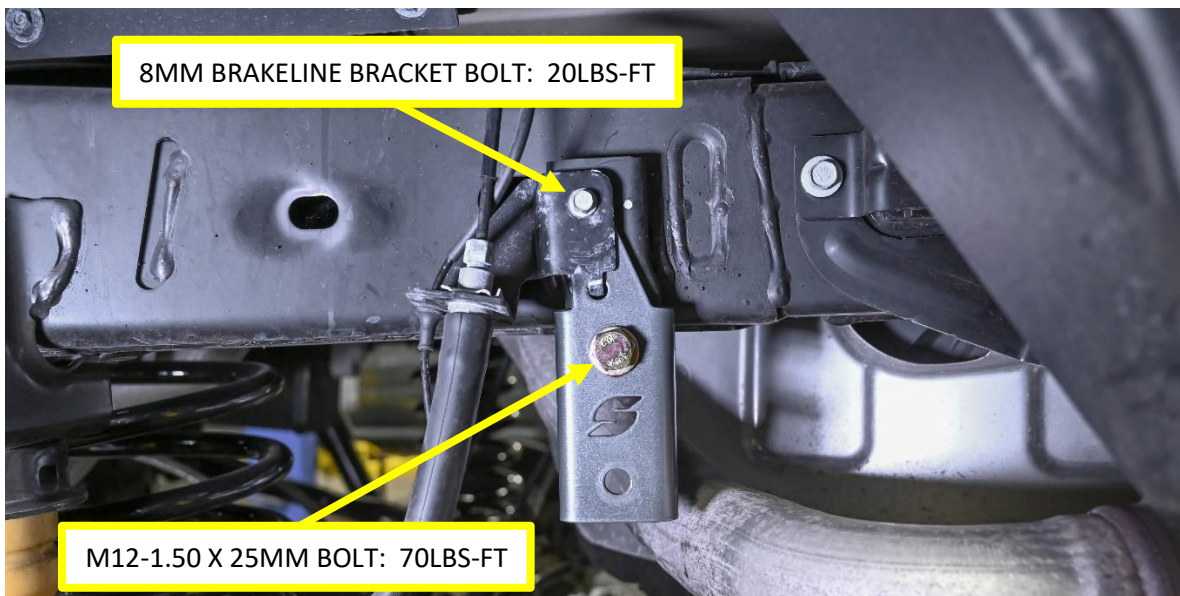

Figure 1. Drivers Side Bracket Correctly Bolted to the Frame
4. Install the new Synergy sway bar drop brackets onto the frame. The brackets are side specific and will only bolt on one way. Slip the bracket under the brake line mount and reuse the previously removed 8mm bolt to hold it in place. Use a new M12-1.50 x 25mm bolt with a 12mm washer, and insert through the bracket and into the sway bar mount on the frame. Tighten both bolts at this time. Repeat for the other side of the vehicle. See **Figure 1**.